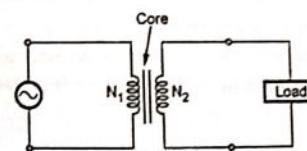

Fig. 5.2.2 Symbolic representation
- Symbolically the transformer is indicated as shown in the Fig. 5.2.2.